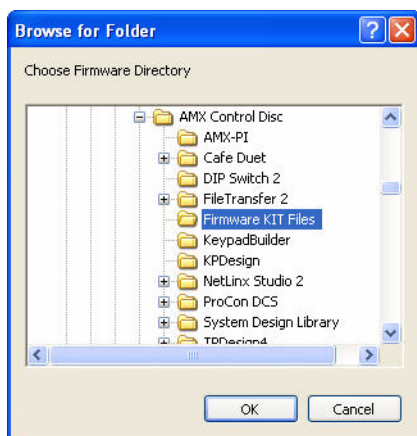

FIG. 30 Browse For Folder dialog (NetLinX Studio)
2. Click the **Browse (...)** button to navigate to the target directory in the *Browse For Folder* dialog (FIG. 30).